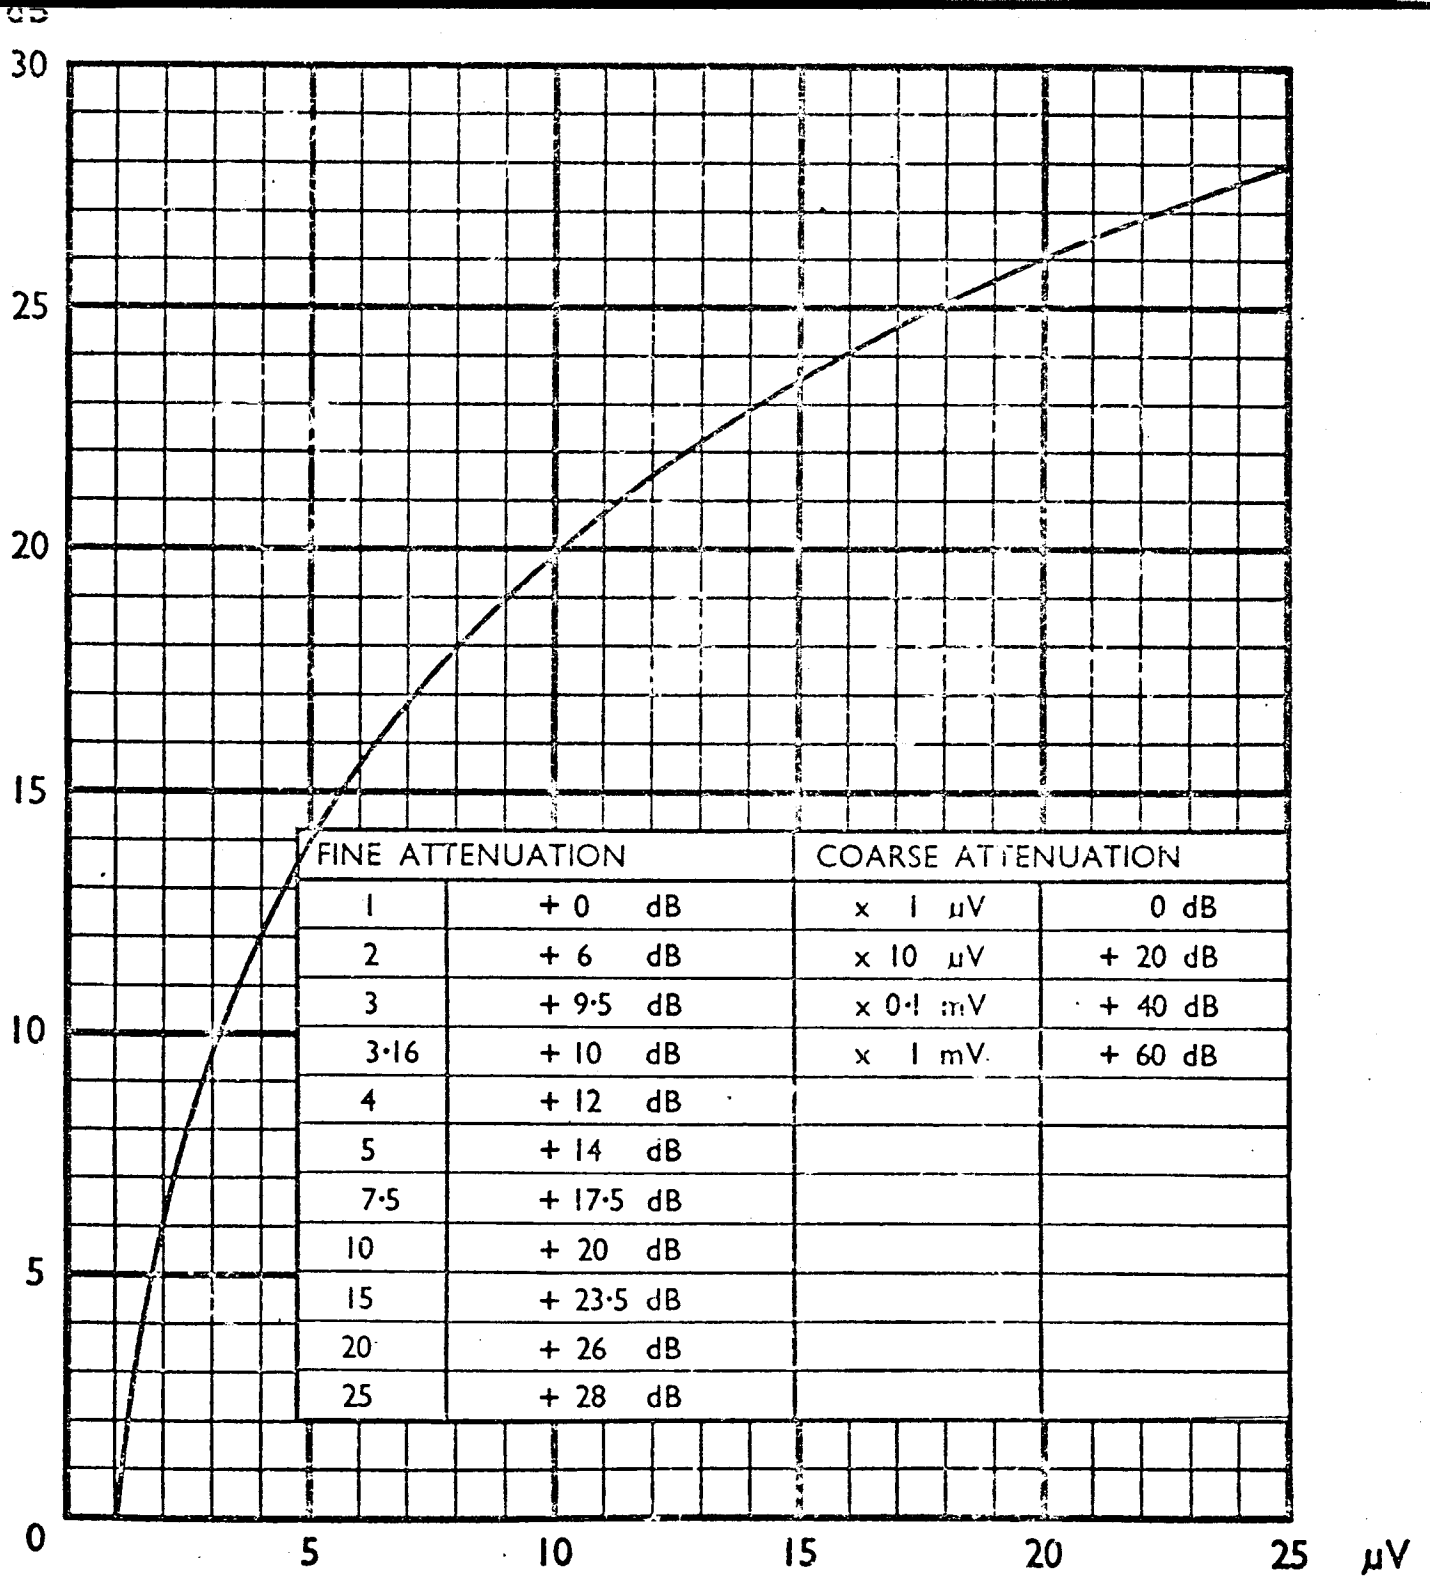

Fig. 2.1.1. ATTENUATOR CONVERSION CHARTS
ATTENUATOR CONVERSION CHARTS.....	Figure 2.1.1.
12. If it is desired to set up or read off a signal in decibels with a reference level of one microvolt across 75 ohms (-or 50 ohms see below), either set up or read off the ATTENUATOR FINE and COARSE dials as in Fig. 2.1.1. which gives a graphical conversion for the 1-25 scale of the FINE control and a tabulated scale for the COARSE, together with notes on the loss of various ATTENUATORS, FIXED, etc. It must be noted that when using a 75 ohm system the decibel reference point:-  $0 \text{ dB} \equiv 1 \mu\text{V}$  across 75 ohms is applicable but when 5905-99-972-6357 ATTENUATOR, FIXED is in circuit the reference level must be changed to  $0 \text{ dB} \equiv 1 \mu\text{V}$  across 50 ohms. To allow for the loss that 5905-99-972-6357 ATTENUATOR, FIXED produces calculate the dB level from the settings of the FINE and COARSE dials and subtract 6 dB.